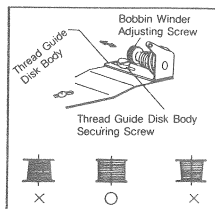

Fig. 16
- The threading surface in the Bobbin should be flat, as shown in Fig. 16. If the Bobbin is not wound up evenly, release the securing screw of the Thread Guide Disk and move the disk to the right or left, to adjust. Adjust the tension of the wound thread with the Thread Tension Adjusting Nut.